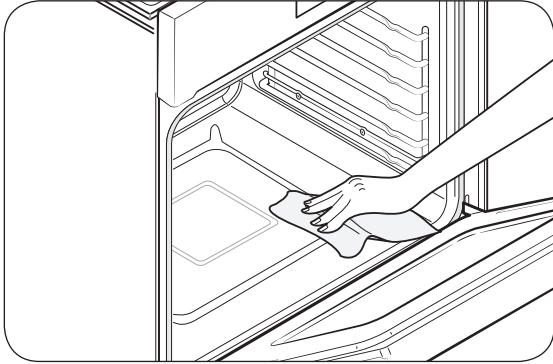

Fig. 1
- Wipe down the oven floor (Fig. 1).